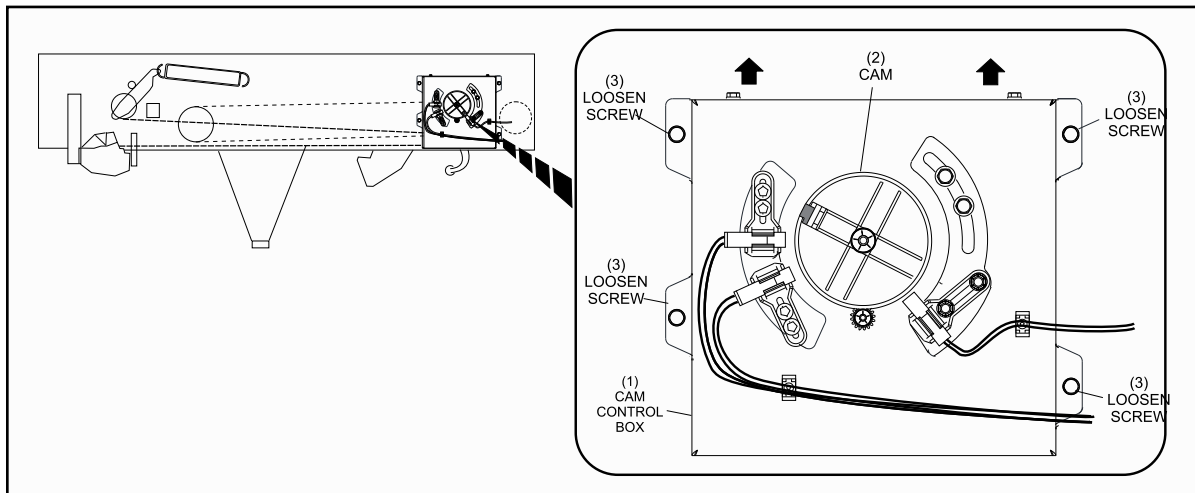

Figure 4-3. Cam Mounting Screws
- c. Loosen the (4) bolts for the Cam Control Box. Refer to *Figure 4-3*.